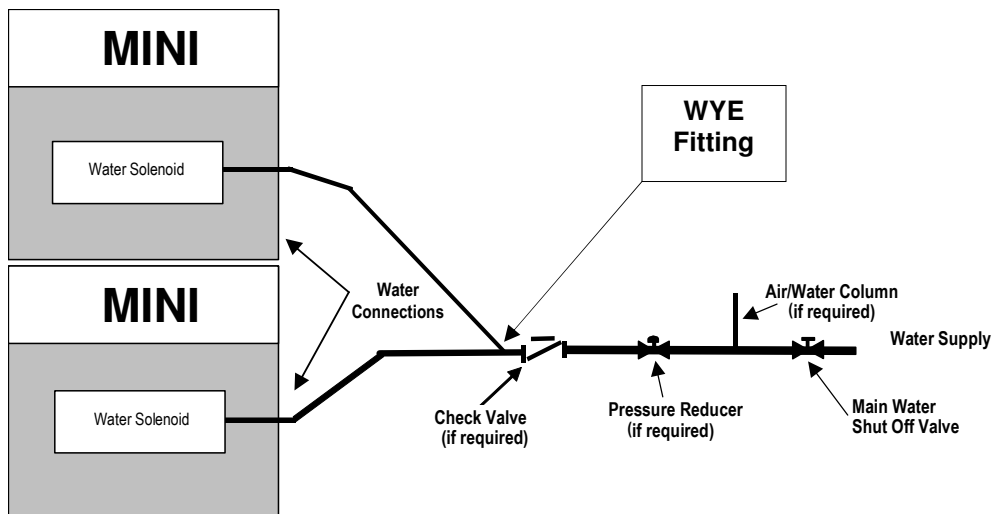

Figure 2-2
- f. Stacked MINIs may be connected to the water supply as shown in Figure 2-2.